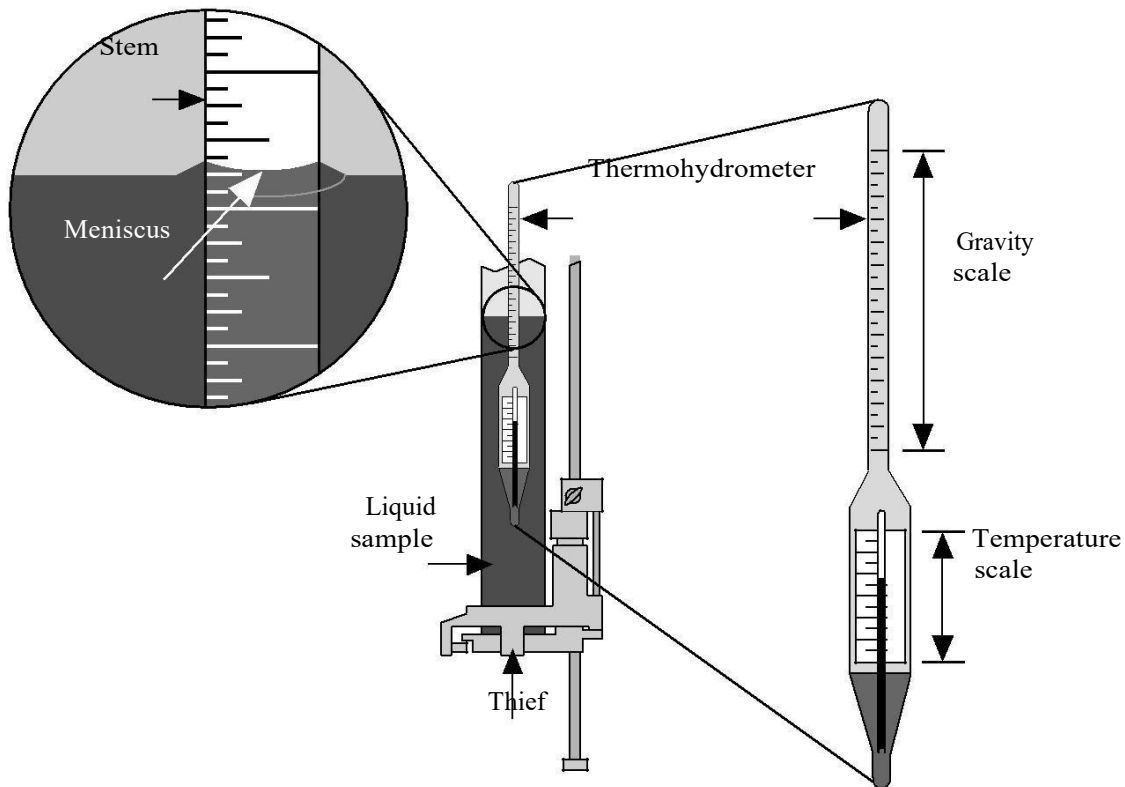

Figure 2.1. Using a thermohydrometer to measure API gravity
2. Insert a clean thermohydrometer into the thief or hydrometer cylinder until it floats freely, and then push it down another 1/4 inch (see Figure 2.1).
4. After at least 3 minutes, read the observed gravity at eye level. Take the measurement at the bottom of the meniscus for clear liquids (see Figure 2.1).